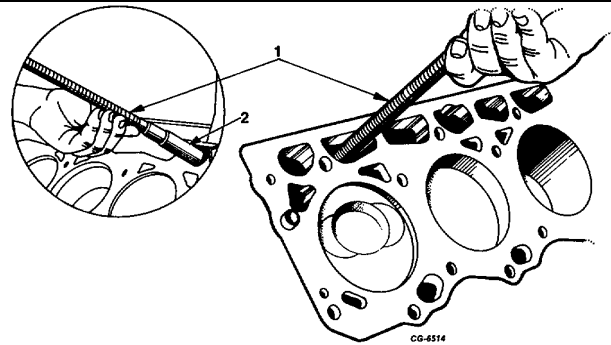

Fig. 49 Tappet Removal
- 53. Remove tappets using SE-2097 remover tool (Figure 49).